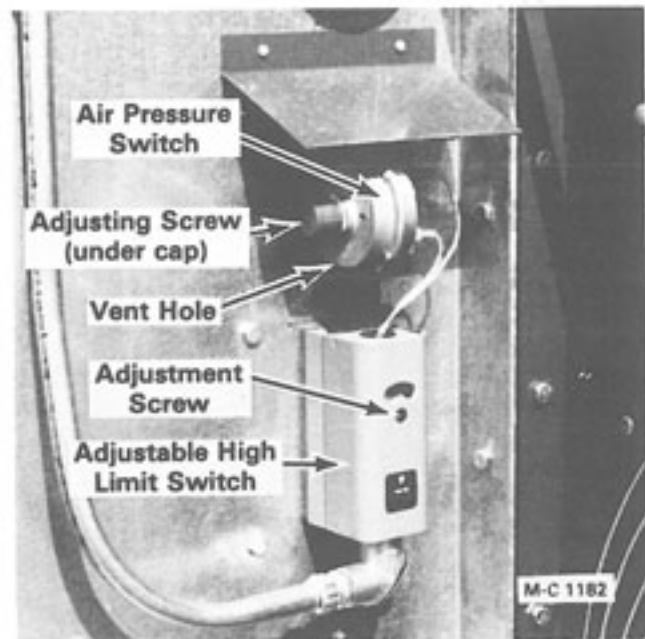

Figure 6 - Adjustable High Limit Switch
1. If equipped - set all of the adjustable high limit switches approximately 50° F above the desired burner operating temperature, see Figure 6 and the "Suggested Burner Operating Temperature Setting Chart" on page 12.